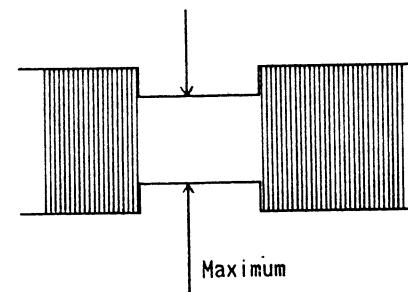

Fig. 2-9
3. Adjust the X value adjustment nut **D** for maximum ENVE signal for CH1 by using F6-N test tape (Refer to Fig. 2-9)